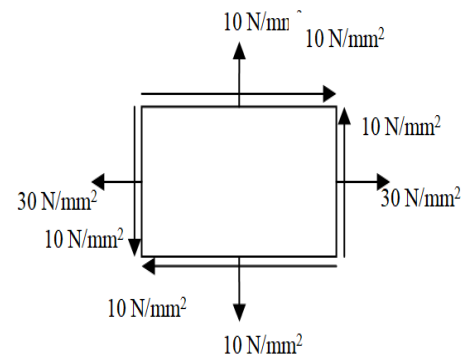

Fig. 3
- (b) An elemental cube is subjected to tensile stresses of 30 N/mm^2 and 10 N/mm^2 acting on two mutually perpendicular planes and a shear stress of 10 N/mm^2 (effecting in counter-clockwise direction on the plane bearing bigger tensile stress) on these planes as shown in Fig. 3. Draw the Mohr's circle of stresses and hence determine the magnitudes and directions of principal stresses and also the greatest shear stress.